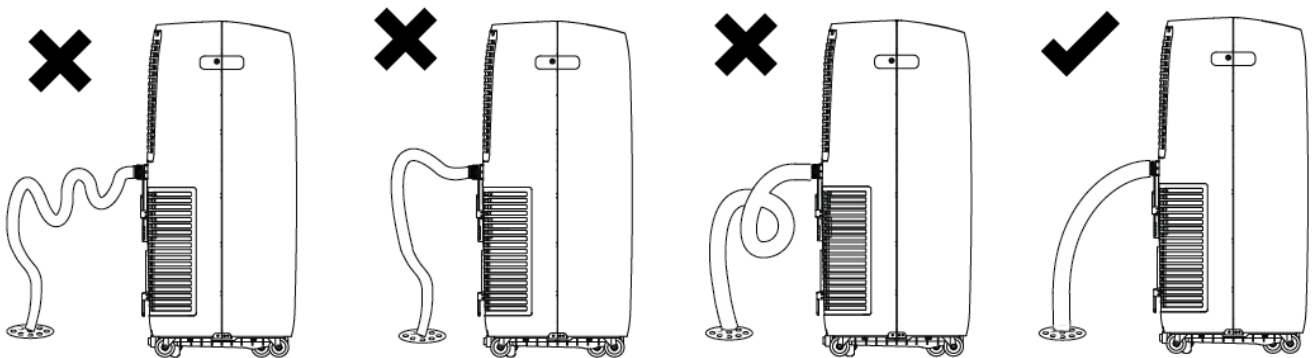

Fig 16.1
5. Make sure that there are no kinks or knots in the garden hose (Fig 16.1).